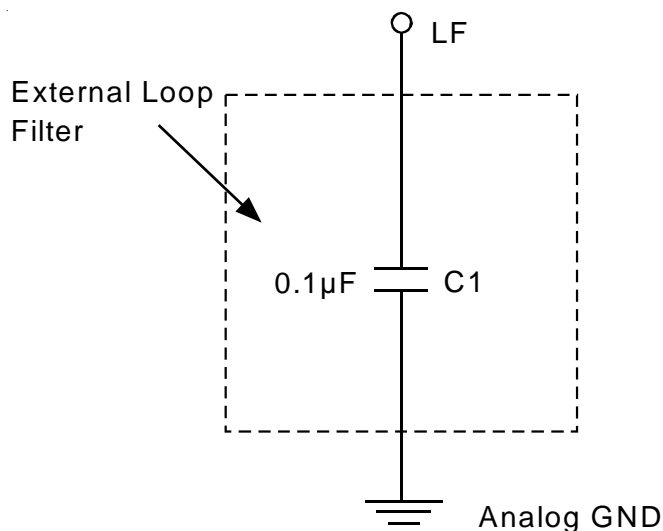

Figure 2. Loop Filter Connection
- Note 8 in "General AC Specification Notes" and Figure 2 describes this specification and its actual limits depending on the feedback connection.
- With V_{CC} fully powered-on and an output properly connected to the FEEDBACK pin. t_{lock} Max. is with C₁ = 0.1μF, t_{lock} Min. is with C₁ = 0.01μF (where C₁ is loop filter capacitor shown in Figure 2).
9. The t_{PD} spec describes how the phase offset between the SYNC input and the output connected to the **FEEDBACK** input varies with process, temperature, and voltage. The phase measurements were made at 1.5V. The Q/2 output was terminated at the **FEEDBACK** input with 100Ω to Vcc and 100Ω to ground. t_{PD} measurements were made with the loop filter connection shown in Figure 2 below: